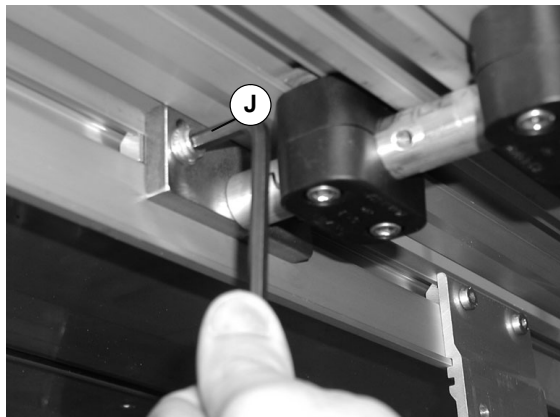

Figure 22
6. Tighten support bar mounting screws (J of Figure 22) to 128.5 in-lbs (14.5 N-m).